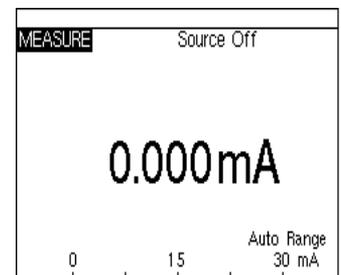

Figure 2
3. Once your connections are made, starting from the DPC power up state (or measure screen), select the "mA" button to measure milliamps (Figure 2).